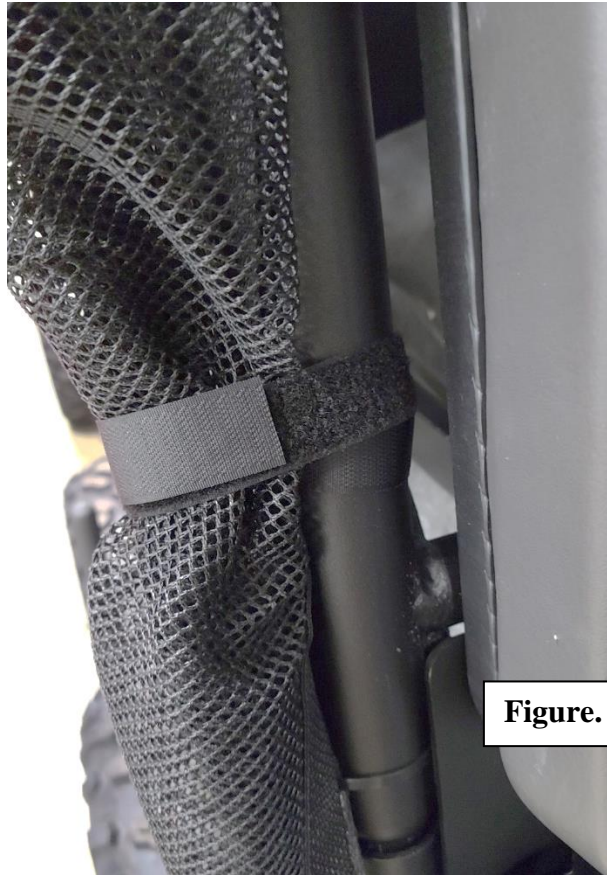

Figure. 10
6. The Velcro straps are intended to hold the net (see fig. 10) when it is not in use, but can be attached to the frame if the net is buckled and in use.